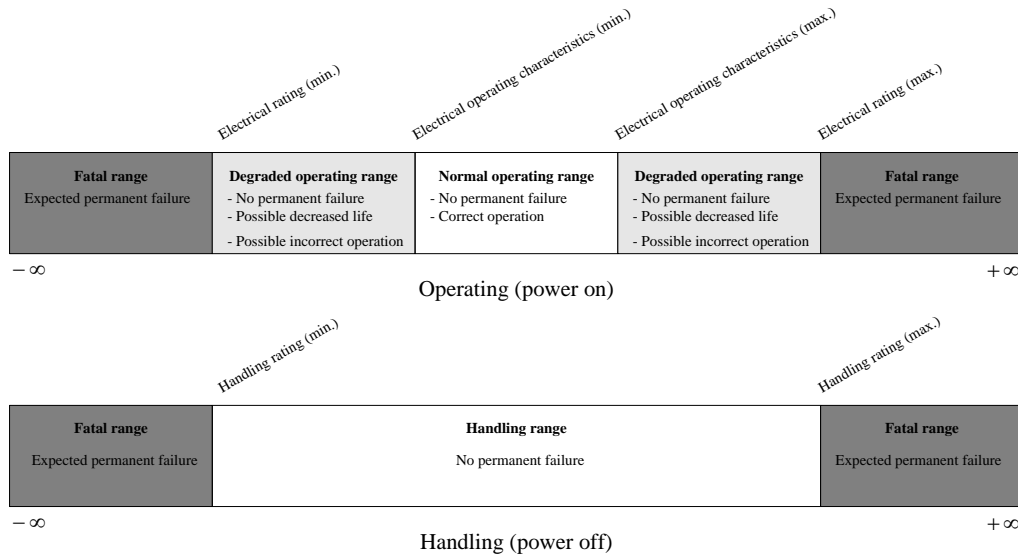

Figure 3. Relationship between ratings and operating characteristics
- To assure chip reliable operation, reserve enough margins for chip electrical design. Figure 3 shows the relationship between electrical ratings and electrical operating characteristics for correct chip operation.